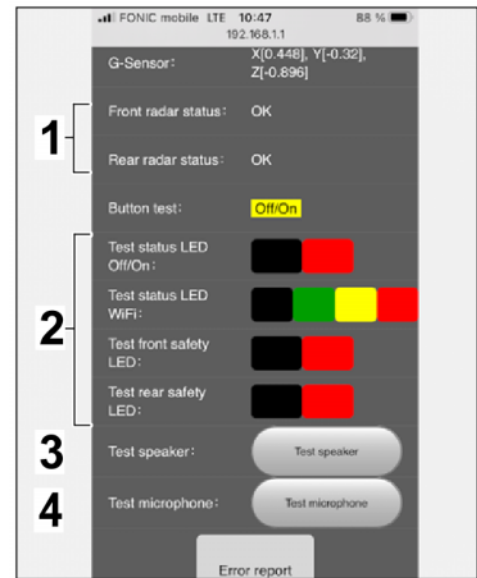

Figure 36
6.3 Display of radar status, possible tests for LED lights, loudspeaker and microphone (⇒ Figure 36)